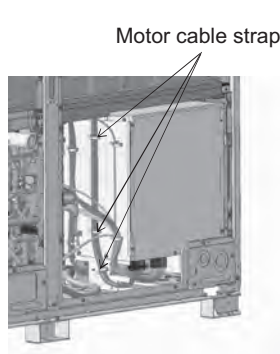

Figure 5
- (7) Remove the 3 cable straps holding motor wiring from the control box. (See Figure 5.)